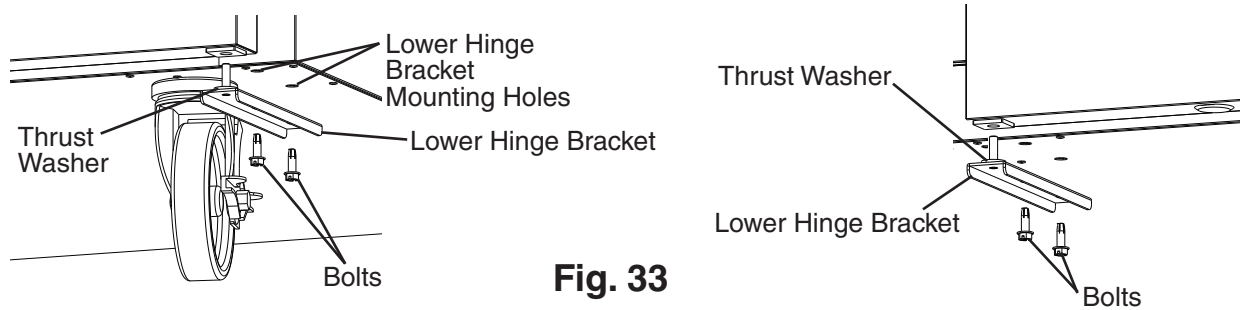

Fig. 33
- 12) Remove the lower hinge bracket. See Fig. 33. Be sure to leave the thrust washer in place.